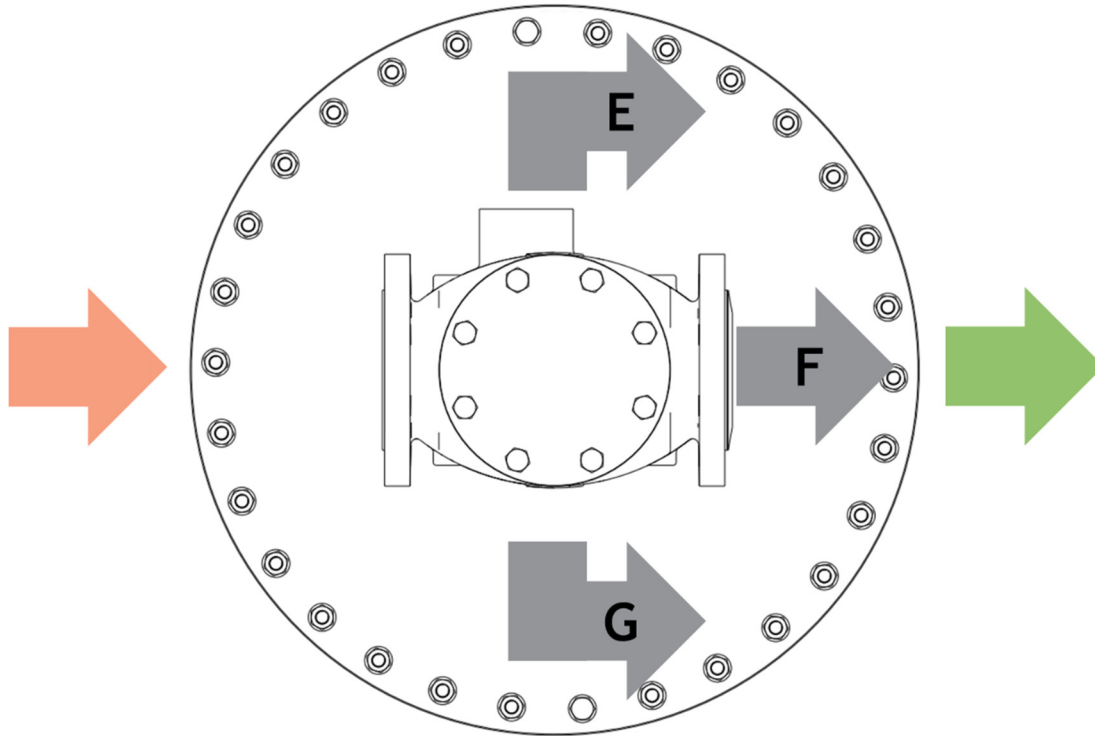

Figure 7: Regulator Sense Line Location Options.
Figure 7 below indicates the position of the sense line for the regulator. Please specify desired sense line positions or the standard position (F) will be assumed.